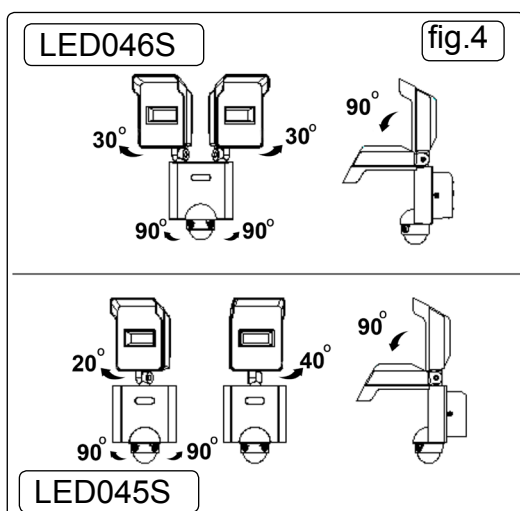

fig.4
- 4.9. The lamp unit may be pointed down to a maximum of 90° and panned to 30° for the LED046S and 20° left, 40° right for the LED045S (fig.4).
- 4.10. The detector head may be moved to 90° in each direction.(fig.4)